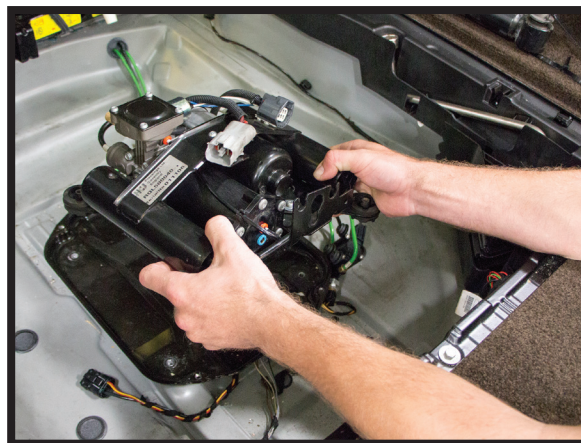

FIGURE 16
7. REMOVE THE FOUR (4) MOUNTING BOLTS HOLDING THE COMPRESSOR ASSEMBLY TO THE VEHICLE. CAREFULLY REMOVE THE COMPRESSOR ASSEMBLY. (FIGURE 16)